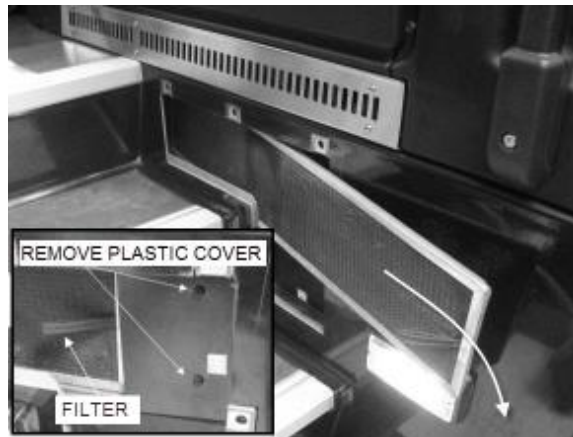
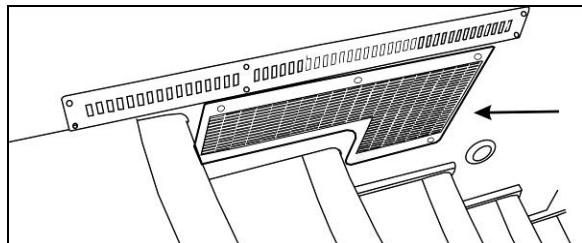

FIGURE 17: REMOVING DRIVER'S SECTION AIR FILTERS
FIGURE 16: R.H CONSOLE AIR FILTER ACCESS GRILL (COACHES) 18505
The driver's unit is located behind the R.H. console panel. To gain access to the air filter, unscrew the R.H. console's grill located in the entrance stepwell. Remove the plastic cover and slide out the recirculating air filter (FIGURE 17).
The driver's HVAC unit is located behind the dashboard's R.H. side panel. To gain access to the A/C filters, unscrew the grille located at the top entrance step (Figure 16). Unscrew the plastic cover and slide out the recirculating air filter (FIGURE 17). Doing so will give you access to the fresh air filter (see item 18, Figure 72).